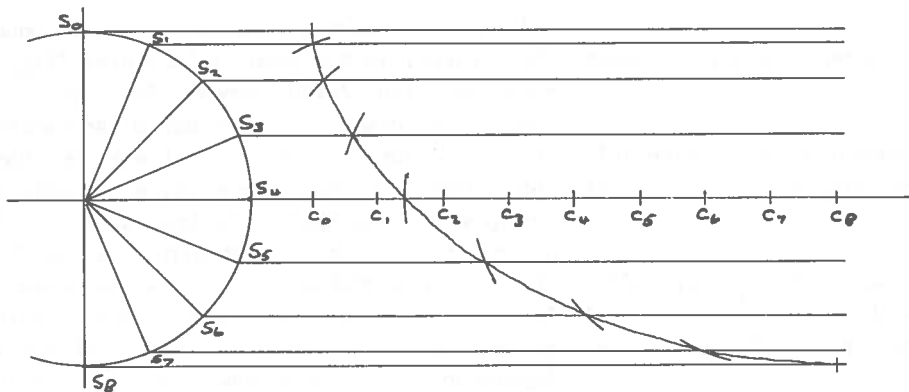

Fig.2 - Geometric construction of cycloid, parts 3, 4 & 5
4. From each point, C_0 to C_8 , construct an arc of diameter d to intersect the nine projected lines in turn (Fig.2).